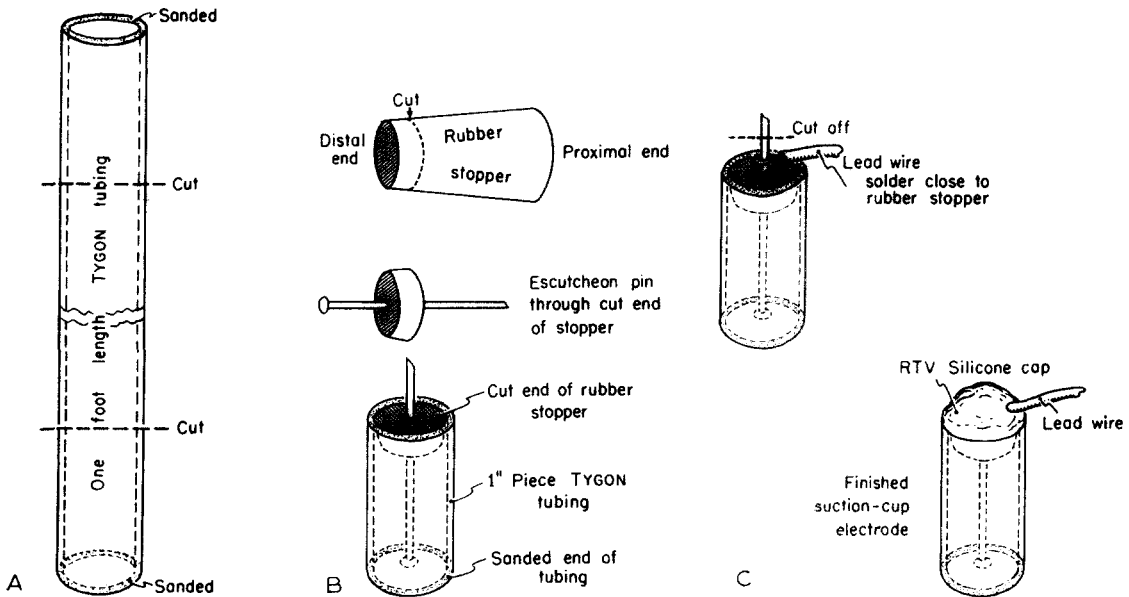

Fig. 1
*Sanding.* Sand the cut ends of a length of Tygon tubing until smooth or until there are no shiny surfaces (Fig. 1, A). This may be done by slowly rotating the tubing in the fingers as it is gently applied to a fine grade sanding disc. Be sure the smooth rounded edge obtained is at right angles to the length of the tubing. Cut 1 in. pieces off of both ends. These pieces form the basic part of the suction-cup electrode. Do not bother to sand the cut end of the 1 in. piece. Repeat the above process for additional pairs.
*Rubber stopper.* Cut off a 3/16 in. piece from the smaller end of the rubber stopper with a jack knife (Fig. 1, B).
*Escutcheon pins.* Take a #16 pin and pound it into the center of the rubber stopper piece, driving it through the distal end so that the point of the pin protrudes through the cut end (Fig. 1, C). Place this into the 1 in. tube, with the rounded end of the pin resting about 1/16 in. above the sanded end. Shift the stopper up or down the pin shaft until the pin is properly located. Remove the two parts and make several more pairs before gluing parts together.
*Assembly.* Using 3M super weatherstrip adhesive, coat the shaft of the pin where it enters the stopper, and coat the sides of the stopper. Re-insert the stopper-pin piece into the 1 in. tubing as before (Fig. 1, C). The stopper will have a tendency to slip out of the tube because of its slight taper and because Tygon becomes slippery when adhesives are used. Hold the stopper in place for about 1 min and then place into the jaws of a vise set to hold the stopper in place. Be sure that the cut surface of the stopper meets flush with the cut
Solder the lead wire to the shaft of the pin which protrudes above the cut end of the stopper, then cut off excess amount of pin which is no longer needed (Fig. 1, C). Coat the entire area with RTV Silicone. This ensures sealing of all areas and secures the lead wire so that usage will not cause the lead wire to break off at the soldered junction.